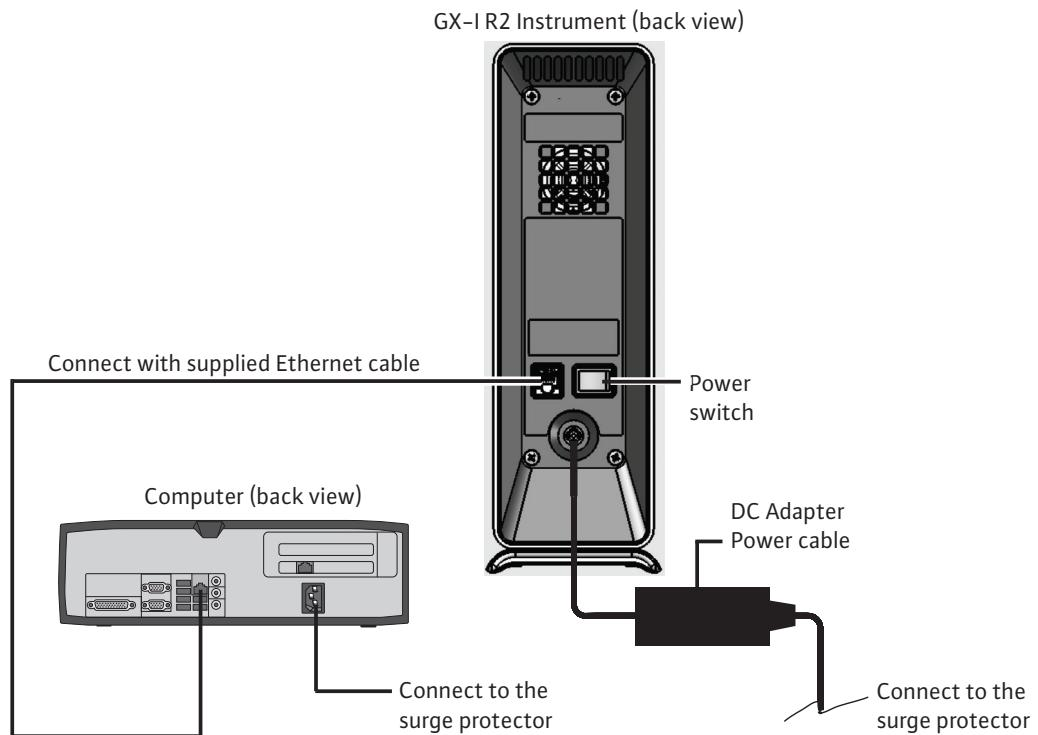

Figure 2-1. Connecting the GX-I R2 instrument to the computer
3. Connect one end of the supplied Ethernet cable to the network port on the back side of the computer (depending on the GX R2 model, see Figure 2-1, or 2-2, or 2-3, or 2-4). A label indicates that the port is for use with the GX R2 instrument.
4. Connect the other end of the Ethernet cable to the network port on the lower back panel of the instrument (Figure 2-1, or 2-3, or 2-4).